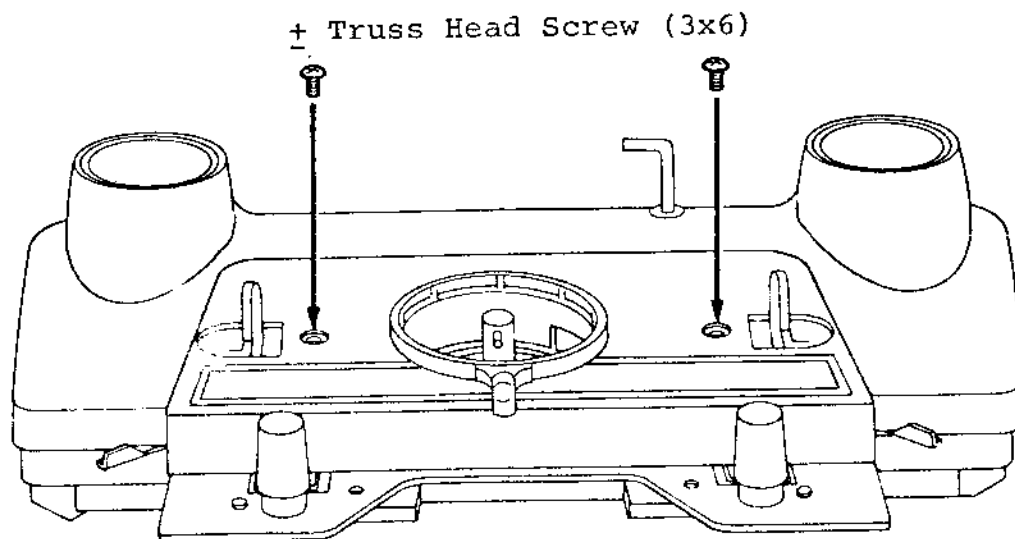

Fig. 52
5. Secure Carriage Cover A with two $\pm$ Truss Head Screws (3x6) as indicated in Fig. 52.